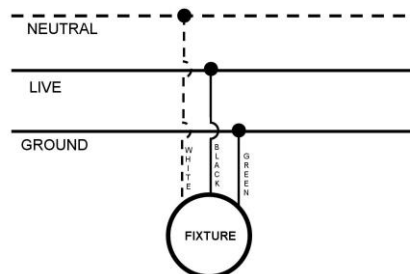

Figure 4: Wiring Diagram
6. Make all wire connections per local electric code. **See Figure 4**